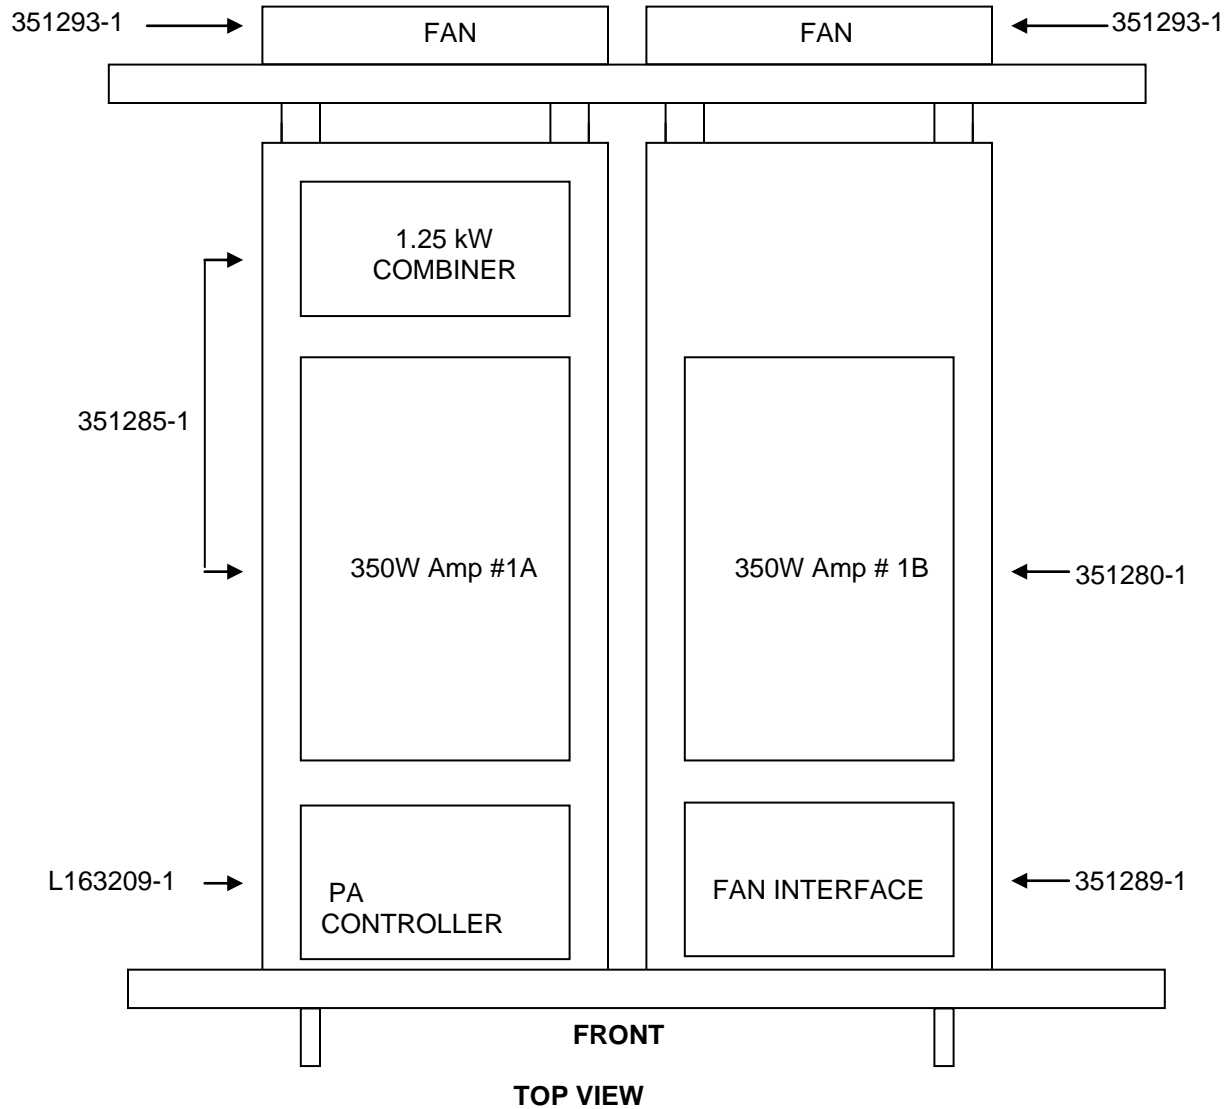

Figure 5.4.1B. 1.25kW PA Module
3. For location of the 350 W Amp's see figure 5.4.1B and 5.4.1C.
3. For location of the PA Controller PCB see figure 5.4.1B.